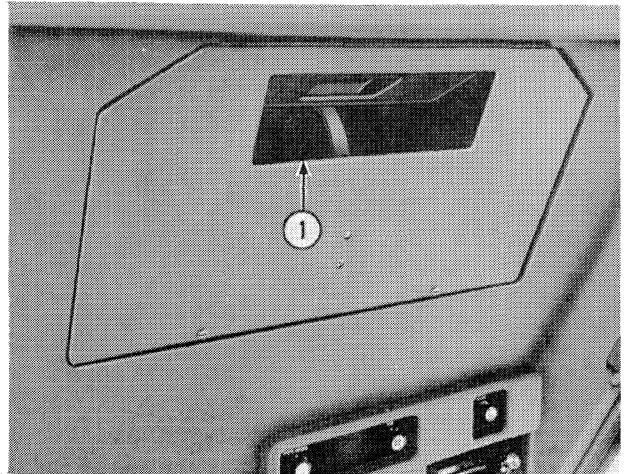
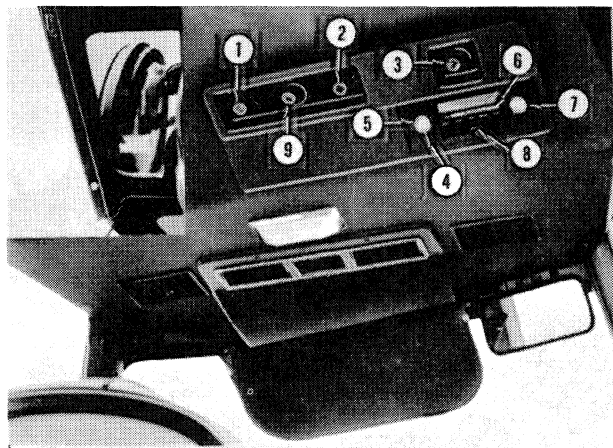
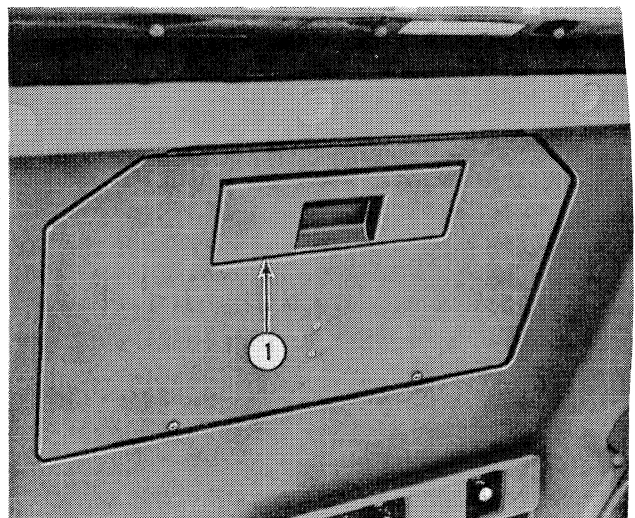

Figure 4
Figure 3
Figure 5
Turn the fan switch (2), Figure 3, clockwise to start and increase the fan speed. Open the air vent, Figure 4, to recirculate air inside the cab. Close the air vent to introduce fresh air in the cab, Figure 5.
Turn the heater control knob (3), Figure 3, clockwise to open the hot water valve. Turn the control knob (2), Figure 3, clockwise to activate the fan.
Progressively lower the cab temperature by rotating the control (9), Figure 3, clockwise. The fan switch must be on before the air conditioning system will operate.
Tractors equipped with a radio will have an AM radio, or an AM/FM/MPX stereo radio. To play the radio only, rotate the key-starter key to the accessory position. Turn on the radio by rotating the on/off volume switch (4), Figure 3, clockwise. Regulate the tone by rotating the ring (5) behind the switch. Select stations with knob (7) or the push buttons. Adjust the push buttons as follows:
1. Select the desired station with the station selector knob (7).
Select tape channels by depressing the on/off volume switch. Balance the stereo speakers by adjusting the speaker balance control (8), Figure 3.
Rotate the windshield wiper switch (1), Figure 3, clockwise to operate. The wiper is two speed. Push the switch in to activate the optional windshield washer.